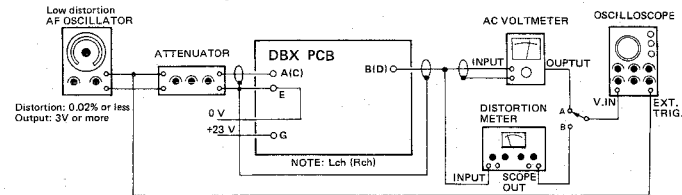

Fig. 5-15 Connections for ENCODER adjustment (2)
4. Change the connections to Fig. 5-15, then feed a 1 kHz  $-8$  dB (308 mV) input signal to the INPUT terminal. Adjust R76/R86 so that AC voltmeter reads  $-8$  dB (308 mV).